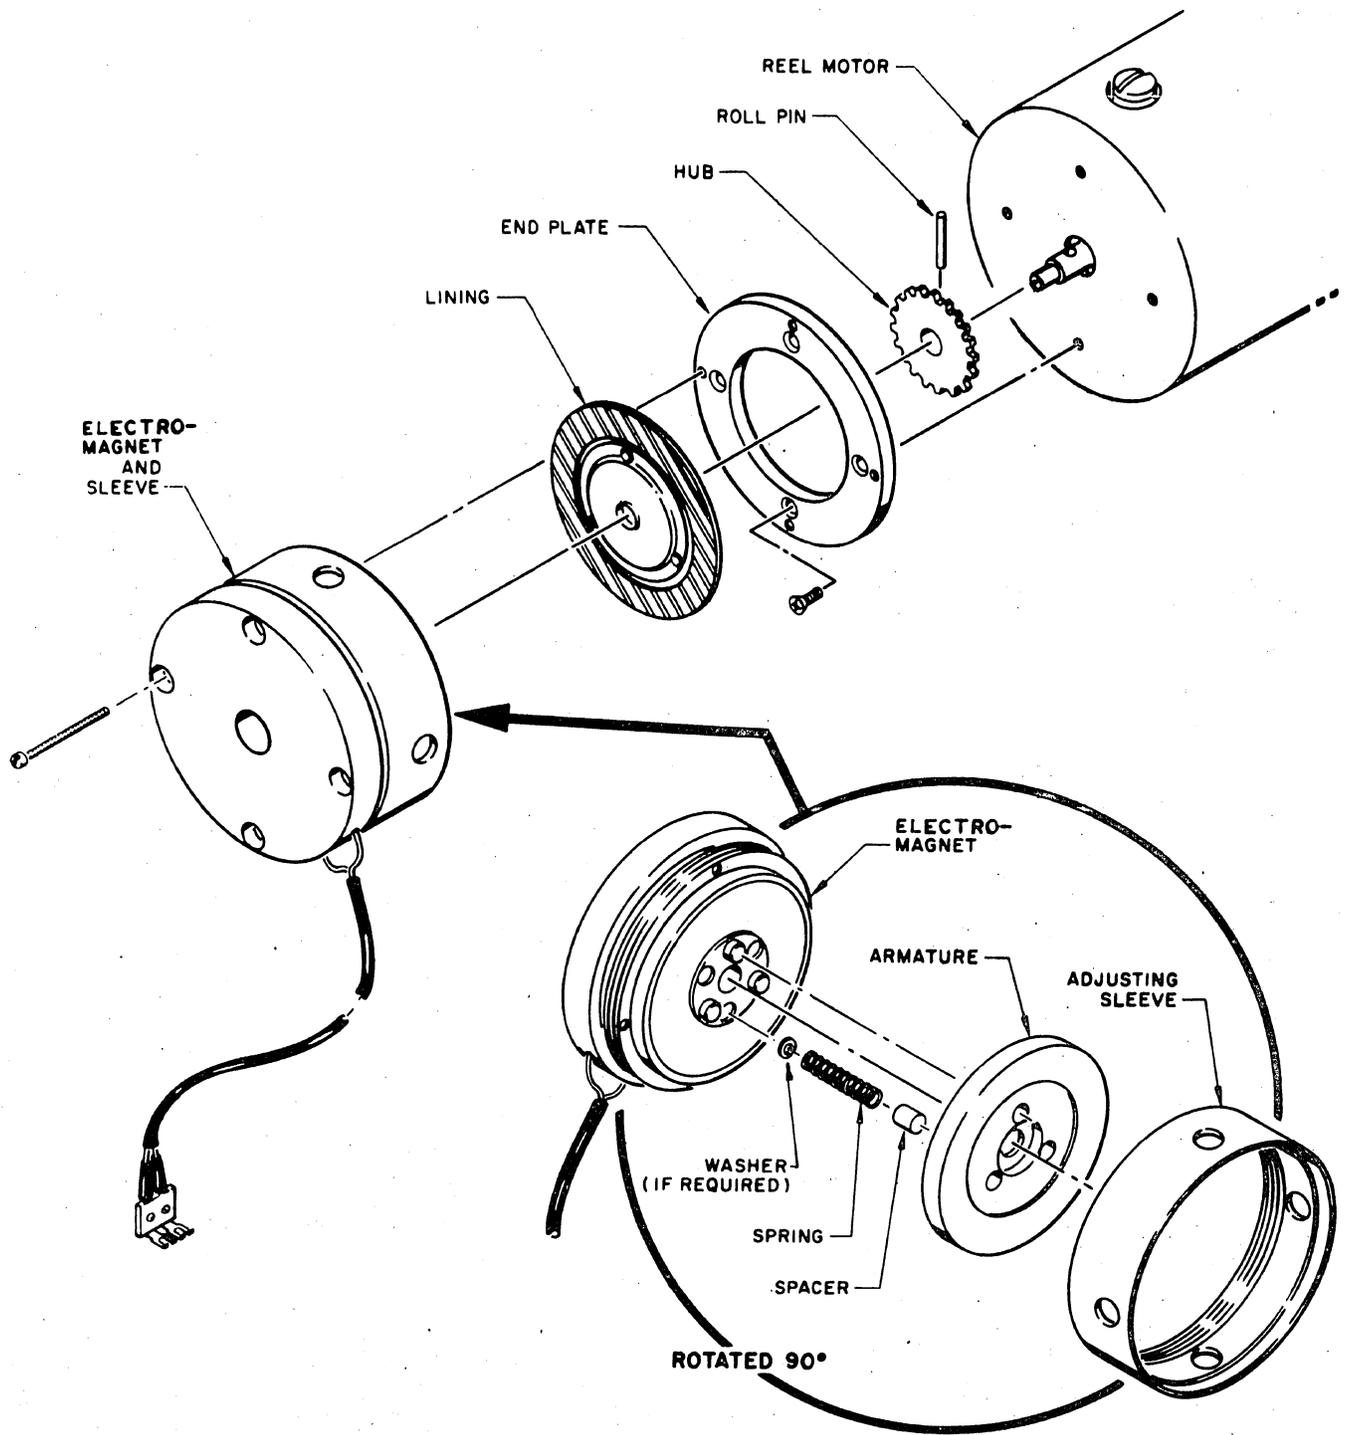

Figure 5-4
- Step 2: With power applied, remove the four screws from the rear of the brake housing. Remove the brake assembly from the reel motor. (See Figure 5-4.)
Adjust the reel brake air-gap as follows. (See Figure 5-4.)